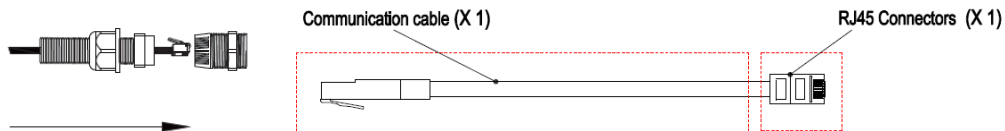

Figure 28 Connection of the Communication Cables on the Inverter Side
Step 10: Please pass the cable through the waterproof cap, the sealing ring and the joint on the baffle, and then connect with an RJ45 connector, see Figure 28.